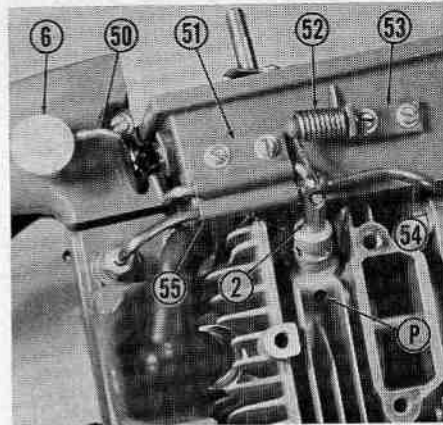

Fig. HL115—View showing compression relief mechanism; all models except XL-101 and XL-102 Automatic are so equipped.
**COMPRESSION RELIEF VALVE.** Except for models XL-101 and XL-102 Automatic, all models are equipped with compression relief valve for easier cranking. When throttle lock (6—Fig. HL115) is pushed in, lever (50) lifts plunger (2) against spring (52) pressure. Then, when engine is cranked, compression is partly relieved through port (P). Squeezing throttle trigger after engine starts releases throttle lock allowing spring to close valve.